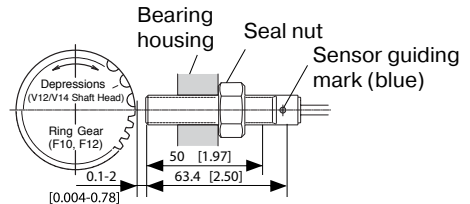

Fig. 1 - Speed sensor installation, F10-30-125, F12, V12, V14
As the sensor has a built-in differential Hall effect device, the sensor housing must be aligned according to the drawing (Fig. 1 & 2) of the Speed Sensor Installation picture. If it is not, the sensor may not function properly and noise immunity decreases. The sensor is non-sensitive to oil and the stainless steel housing withstands hazardous environment conditions.
- If required, back it off further until the sensor guiding hole centerline is either as shown in Fig. 1 & 2 or 180° opposite.